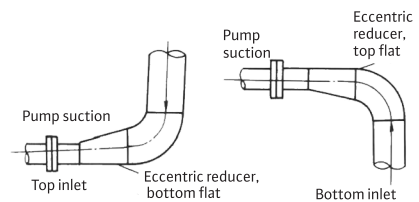

Fig. 7
- When the eccentric reducer used for suction, installation must conform to the requirements as right (see figure 7).